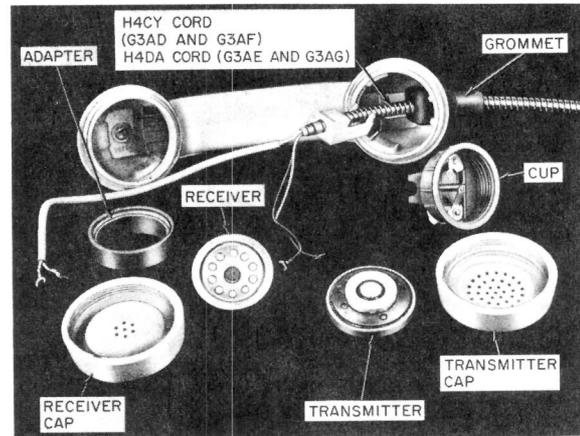

Fig. 2—G3AD, G3AE, G3AF, and G3AG Handsets
2.13 ♦The G3AD, G3AE, G3AF, G3AG, G3AR, G3P, G3R, G3S, and G3T handsets are rated MD. The G3AH replaces the G3AD and G3P. The G3AJ replaces the G3AE and G3R. The G3AK replaces G3AF and G3S. The G3A6 replaces the G3AR, and the G3AG replaces the G3T.♦ The G3AD, G3AE, G3AF, and G3AG handsets contain the LA2 receiver mounted on 840360846 adapter (Fig. 2).